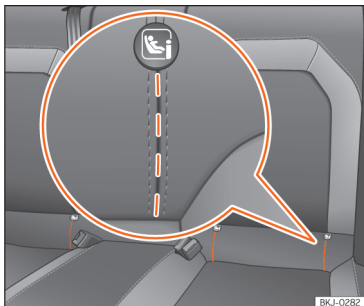

Fig. 24 Rear seat: slots die cut to access the ISOFIX / i-Size securing rings.
backrest and the seat cushioning » » **Fig. 24**. The Top Tether rings are located on the rear part of the rear seat backrests (behind the backrest or in the luggage compartment) » » **page 34**.
- Open the cut-out section behind the marked grooves to access the retaining rings » **Fig. 24.**